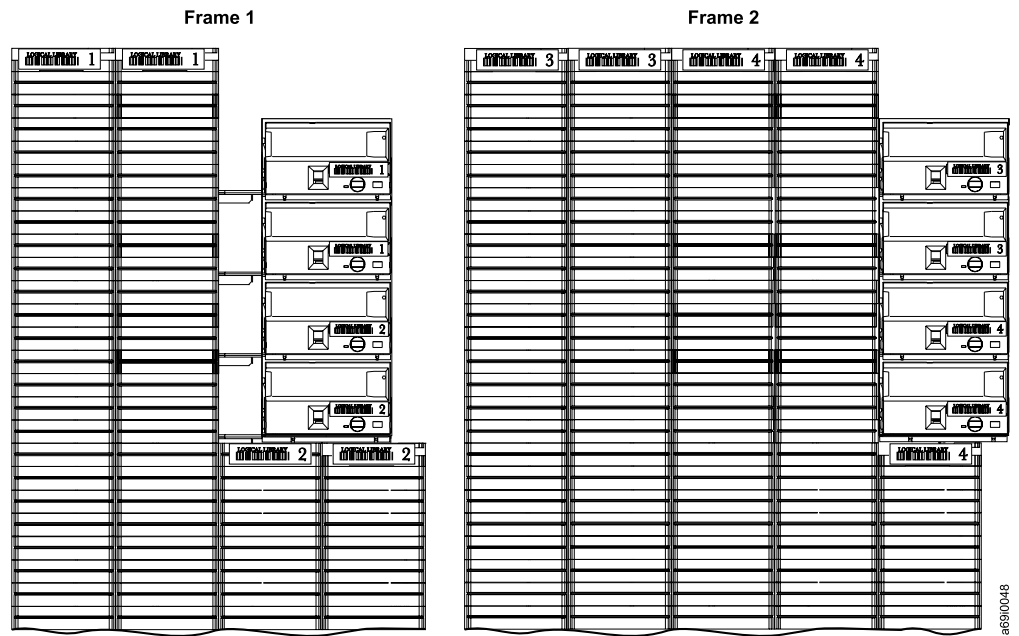

Figure 35. Indicating the boundaries of logical libraries
**Guidelines for Applying Labels:** To indicate the boundaries of your logical library with labels, refer to Figure 35 on page 129 and use the following guidelines:
- Designate the boundaries of your logical libraries. The UltraScalable Tape Library does not allow non-contiguous labels of the same logical library number. For example, if columns are labeled 1, 2, and 1, the third column will be considered part of Logical Library 2. See the examples in Figure 35 on page 129.